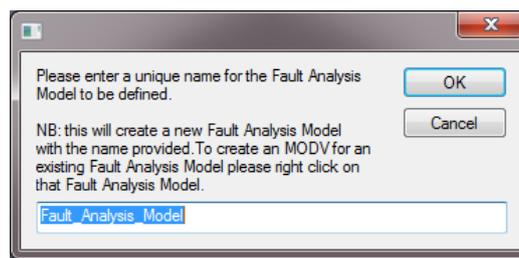

Figure 4: Providing a name for the *Fault Analysis Model*
2. Enter a unique name for the new *Fault Analysis Model* (if the name is not unique you will be prompted to reenter the name) as shown in Figure 4